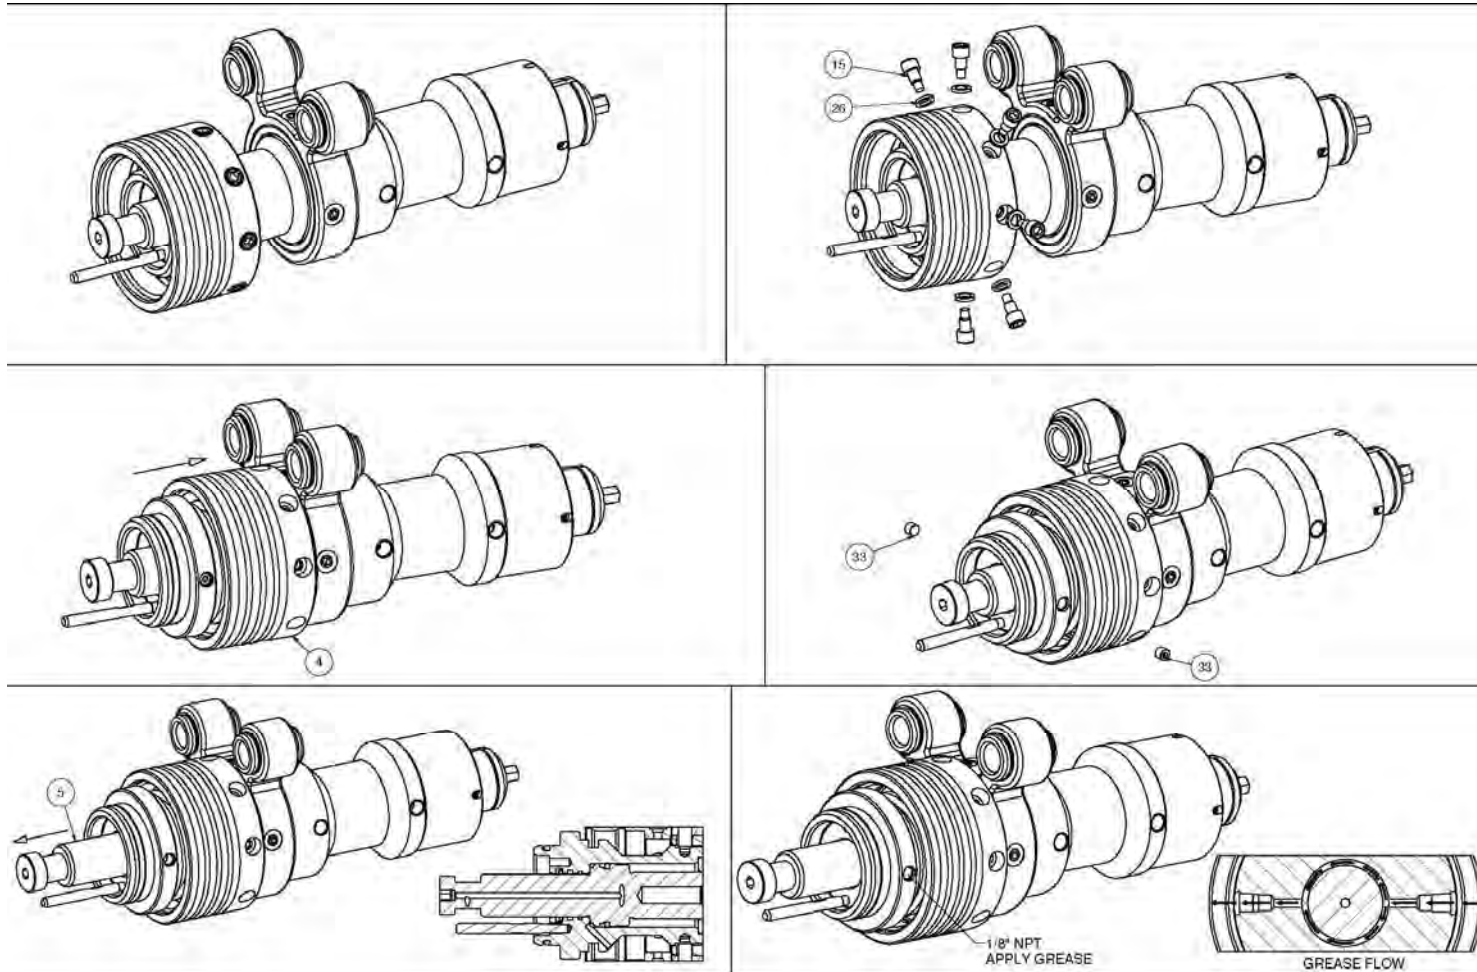

Figure 12: Instructions for greasing of the Piston Shaft
- Re-apply grease to the balanced piston, ref Figure 12: Instructions for greasing of the Piston Shaft